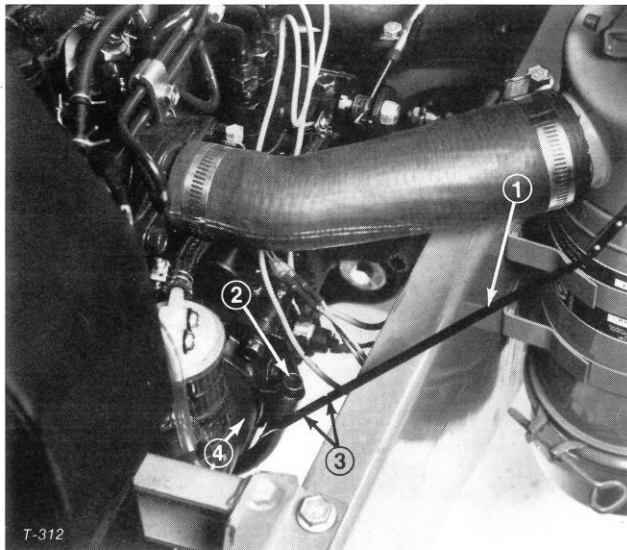

Figure 46
4. Remove oil drain plug and allow oil to flow into drain pan. Remove and replace oil filter (Fig. 46); refer to parts catalog for part number.